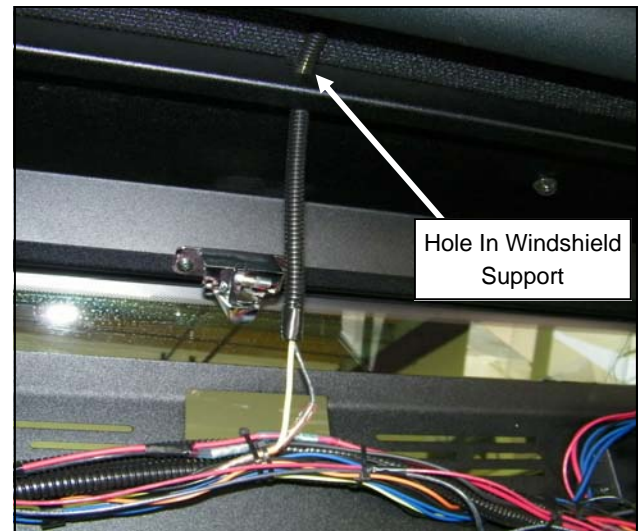

Fig. 2.2
- 2.2 Cut the cable tie from the coiled yellow/black wires inside the console. Be careful not to cut any wires. Feed the yellow/black wires through the hole in the top/center of the windshield support and connect to the Strobe Light wires. See figure 2.2.